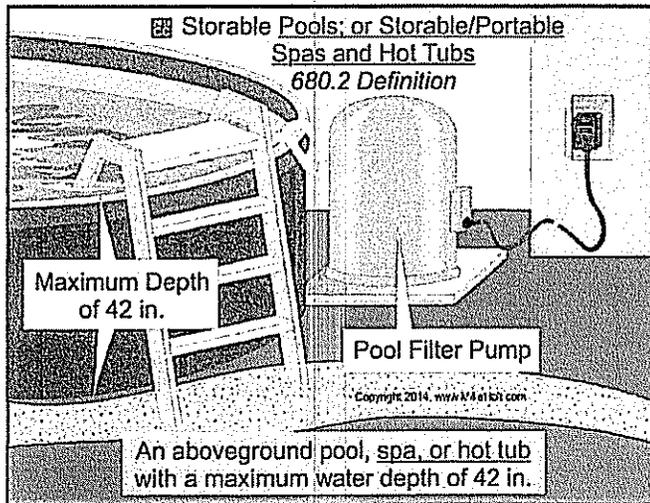

Figure 680-8
**Storable Swimming Pool, or Storable/Portable Spas and Hot Tubs.** An aboveground pool, or spa, or hot tub with a maximum water depth of 42 in. Figure 680-8
- Storable pools are sold as a complete package that consists of the pool walls, vinyl liner, plumbing kit, and pump/filter device. Underwriters Laboratories, Inc. (UL) requires the pump/filter units to have a minimum 25 ft cord to discourage the use of extension cords.